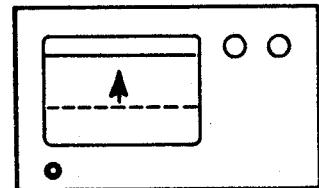

FIG.7
2. Adjust T 202 for minimum DC. (FIG.7).